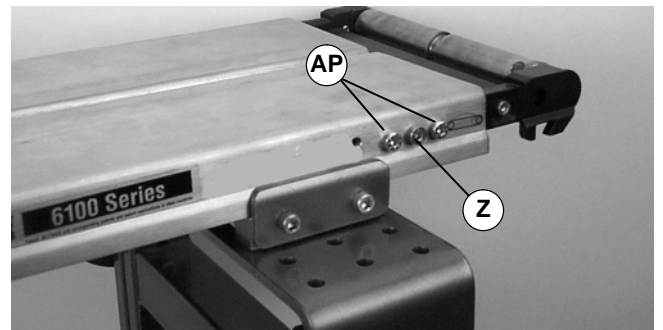

Figure 32
- Remove screw (Z of Figure 32).
- Remove four (4) tail plate mounting screws (AP of Figures 32 & 33).